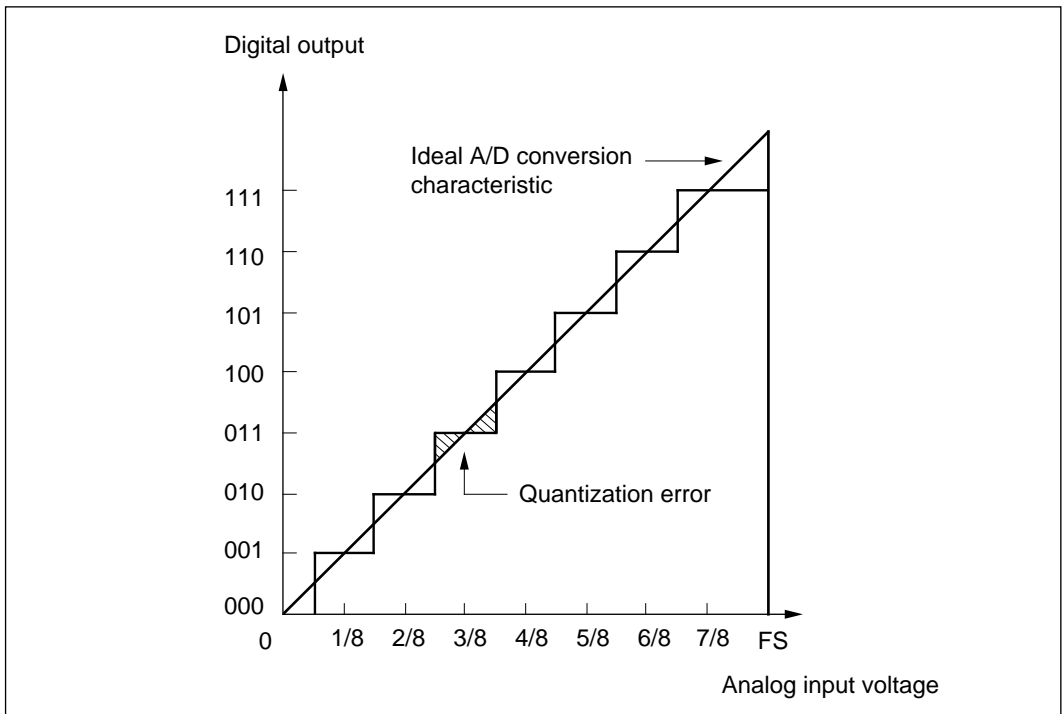

Figure 15-11 A/D Converter Accuracy Definitions (1)
- Quantization error: intrinsic error of the A/D converter; 0.5 LSB (figure 15-11)